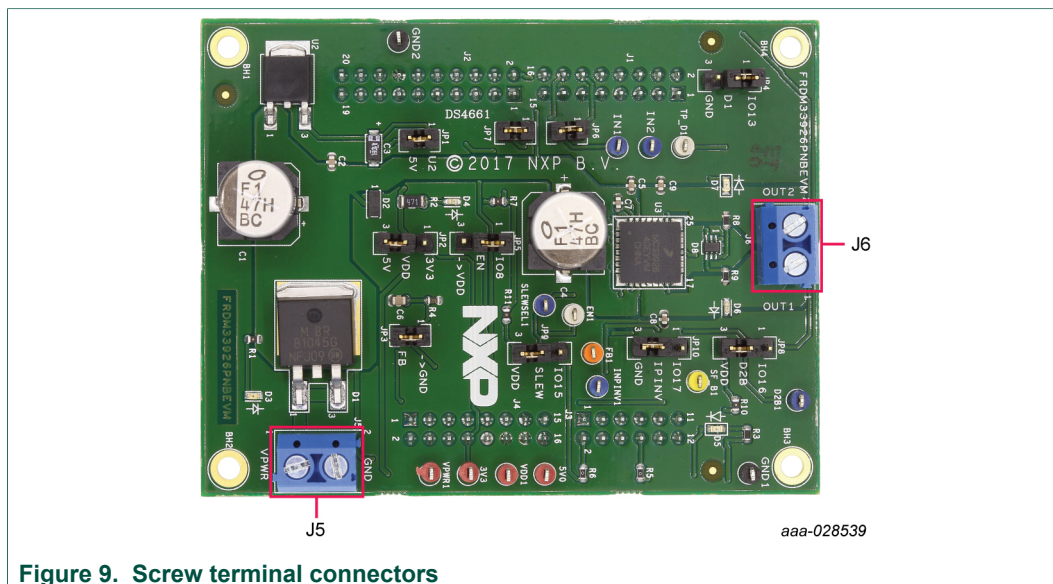

Figure 9. Screw terminal connectors
The board has following screw terminal connections to connect the power supply and the load. Figure 9 shows the location of the screw terminal connectors.
2. With the power switched off, attach the DC power supply to the VPWR and GND screw connector terminals on the evaluation board (J5 in Figure 9).
3. Attach one set of coils of the brushed motor to the OUT1 and OUT2 screw connector terminals on the evaluation board (J6 in Figure 9).